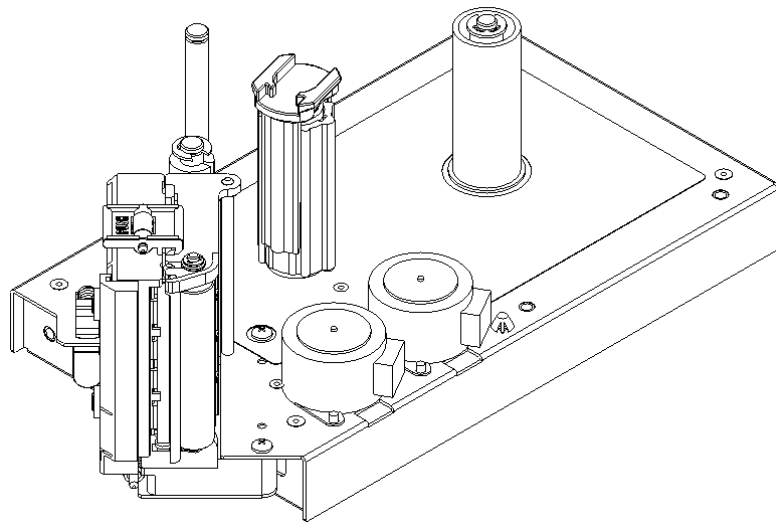

Figure 3.1.1 Appearance
- The appearance of the printer is shown as figure 3.1.1.